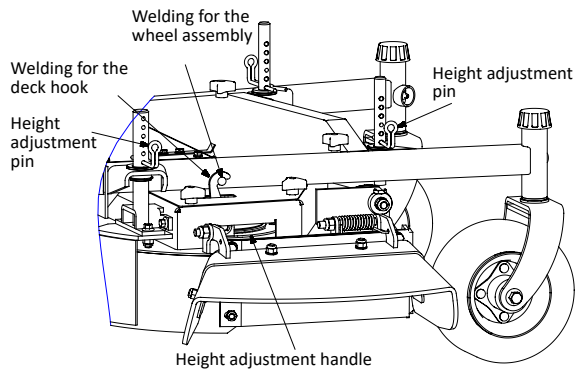

FIG 8.
- Insert the height adjustment pin into the hole corresponding to the desired cutting height. See the decal on the deck lift plate. Move the lever from the transport position and down onto the height adjustment pin to mow at the selected height. See FIG 8.